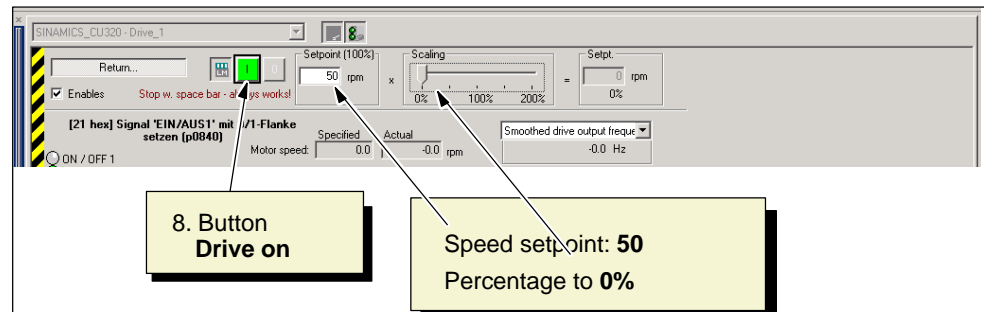

Fig. 4-11 Control panel before "Drive on"
7. Before starting the motor by choosing **Drive on** (see Fig. 4-11), you have to make the following settings: